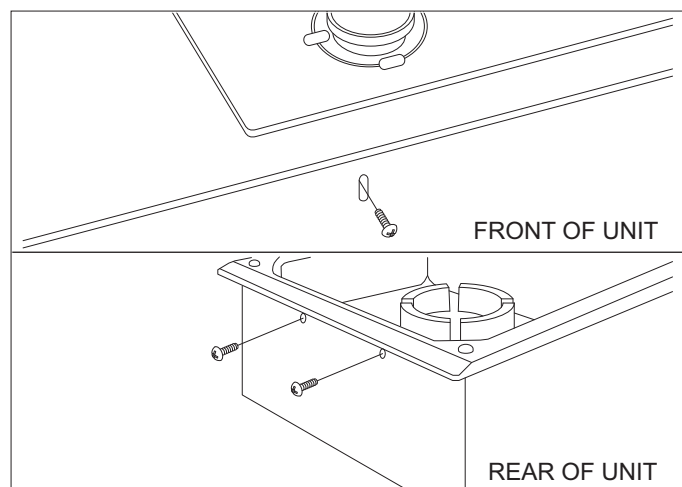
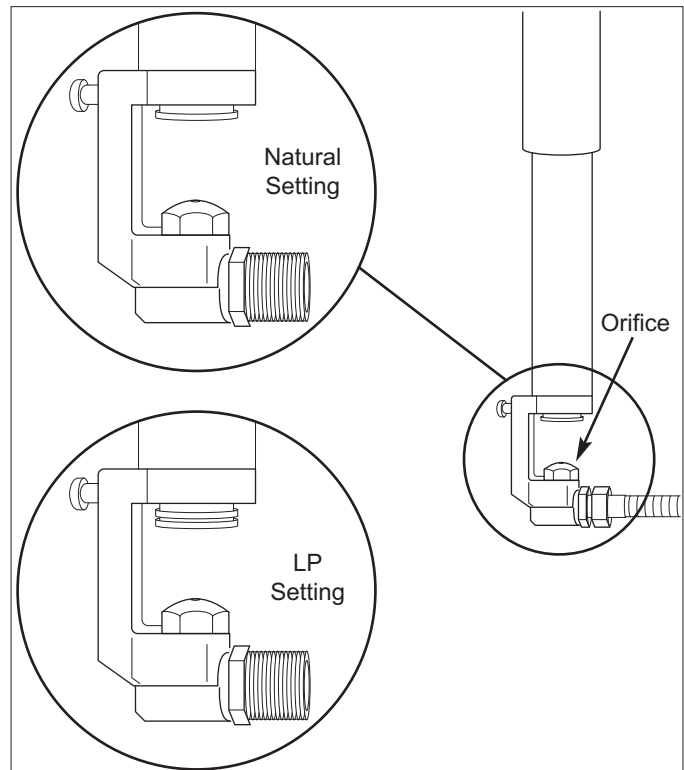

Figure 1. Extract Screws from Front & Rear of Unit.
Figure 2. Orifice Location
1. First, remove the burner grate, burner head and the control knob from the unit and set aside (See Figure 1).
2. Next, extract three (3) Phillips head screws, one (1) from front and two (2) from the rear of the unit.
4. Using a 10mm wrench, remove the Orifice, Wok LP (stamped 146) and it replace with the supplied Orifice, Wok Nat (stamped 195). Adjust the Venturi Tube to the first marked line by loosening the set screw on the jet holder and sliding the tube out. Retighten the set screw (See Figure 2 on page 2).